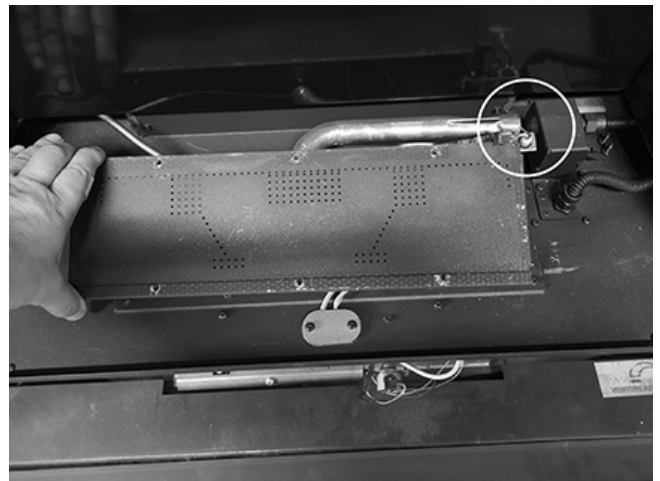

Figure 59: Disengage burner from the Primary Air shutter.
5. Disengage the burner from the Primary Air Shutter assembly and remove from the unit. Figure 59